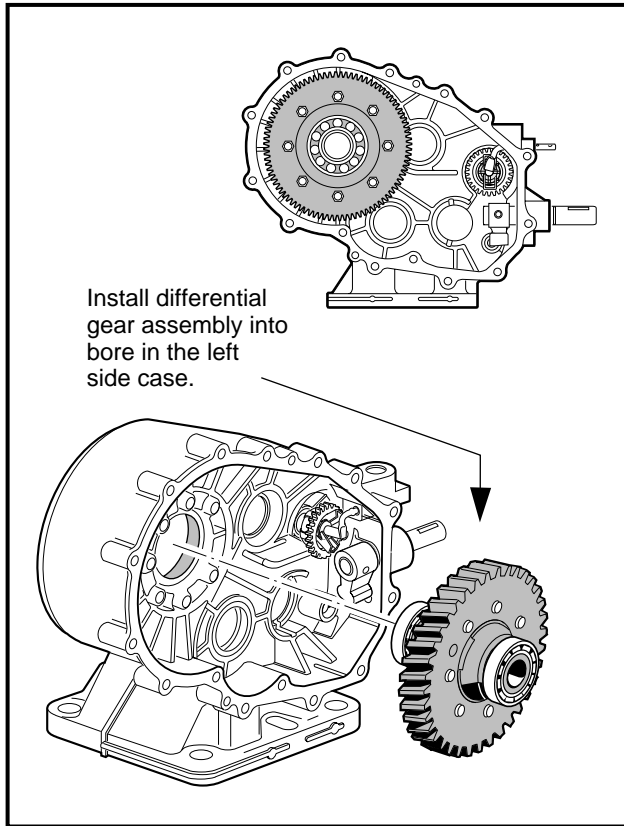

Figure 16-72 Differential Gear Assembly
- 7.1. Stand the left side case on the mounting plate, then install the differential gear case assembly as shown (**Figure 16-72, Page 16-32**). Do not seat the assembly in the bore, but insert it just far enough that it will not fall out.